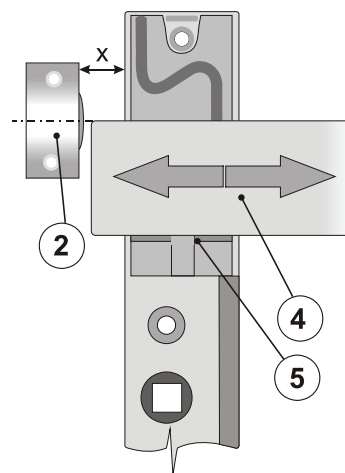

Figure 2: 2 – permanent magnet / magnetic contact; 4 – transmitter cover; 5 – guideline for easy placing of the permanent magnet
2. Insert the handle shaft through the square hole (8) of the lock and screw to the frame using the mounting holes (3). Also supplied is an appropriate adaptor size 7/8 for a square hole (for when a handle shaft's square dimensions are smaller).
3. If the magnetic contact needs to be used, mount it (permanent magnet) on the static part according to Figure 2. The transmitter cover (4) can be used as an aid, put in line with the guideline (5) and put the permanent magnet on an axis with the upper edge of the cover.
- b. When both batteries have been inserted the green LED (6) flashes briefly and then the yellow LED starts to light (9). When the enrolling process is finished the yellow LED goes off.